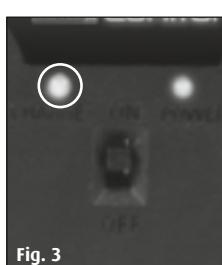

Fig. 3
4. The charging status LED will now light up green to indicate the charging procedure (Fig. 3)